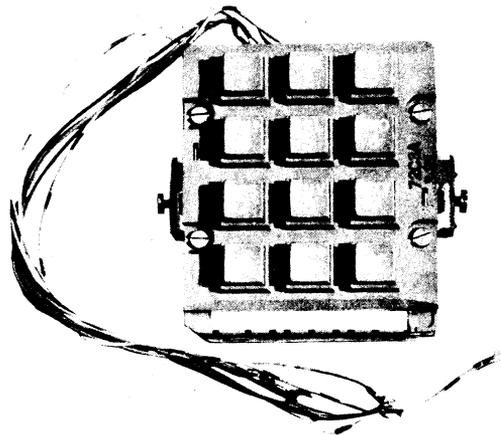

Fig. 1—72C3A (MD) Dial, Front View
**1.01** This section contains information on the 72C3A manufacture discontinued (MD), 72D3A (MD), and 72E3A (MD), 72H3A, 72J3A, and 72K3A dials (Fig. 1, 2, 3, and 4).